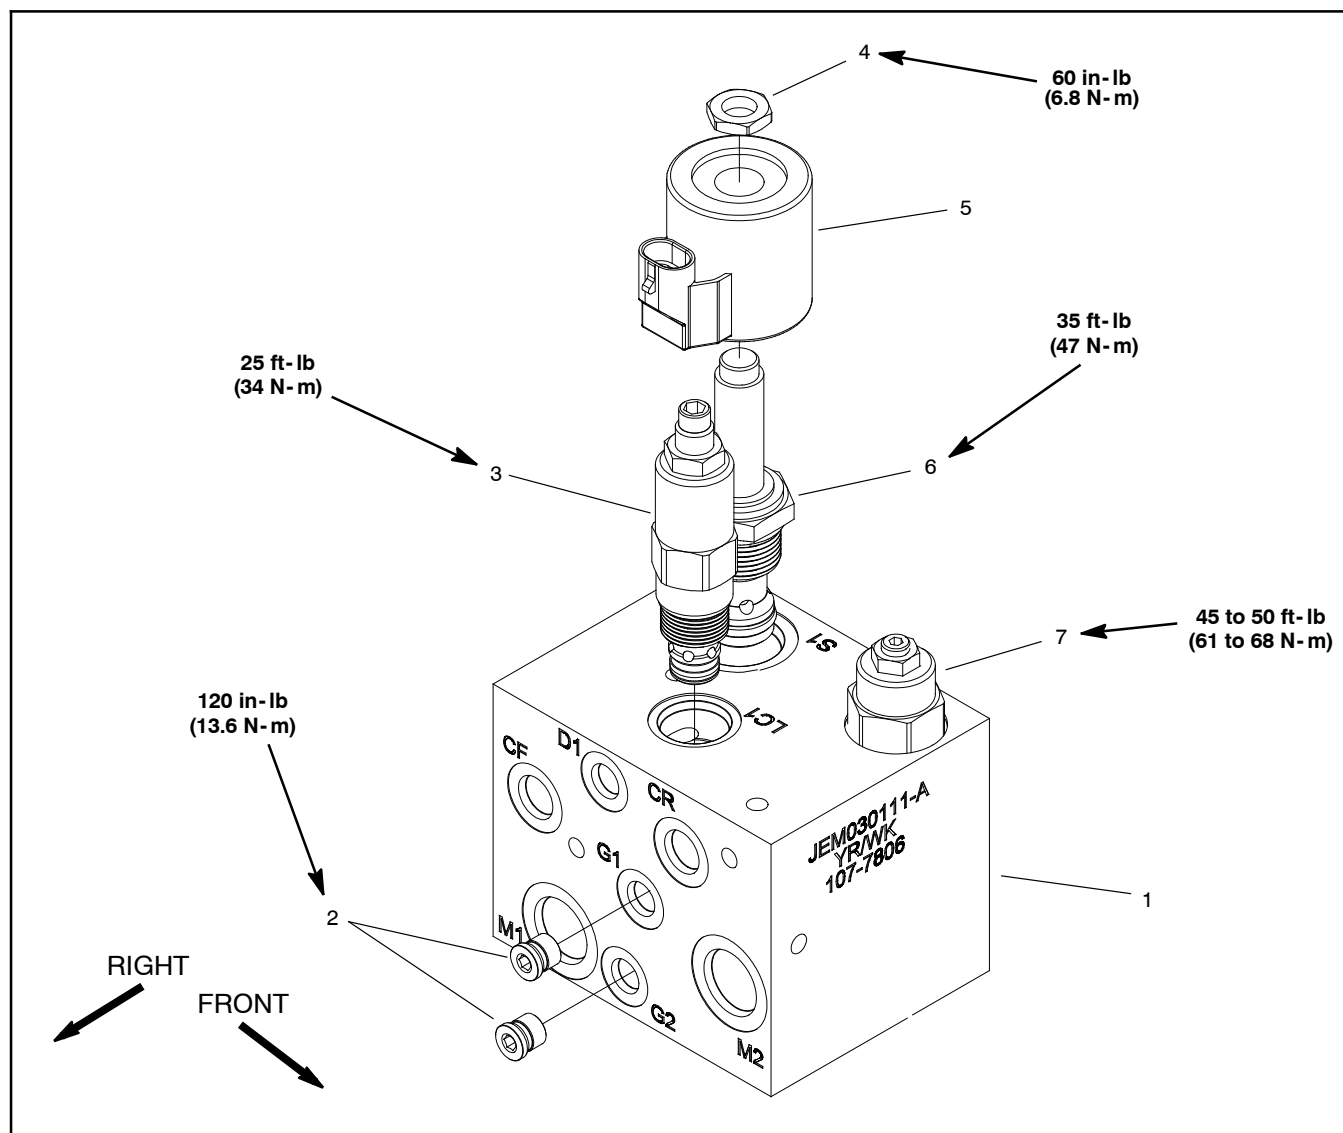

Figure 97
### Cartridge Valve Service (Fig. 97)
C. Torque cartridge valve using a deep socket to valve identified in manifold illustration (Fig. 97).
D. If cartridge is solenoid operated, carefully install solenoid coil to the cartridge valve. Torque nut to valve identified in manifold illustration (Fig. 97).